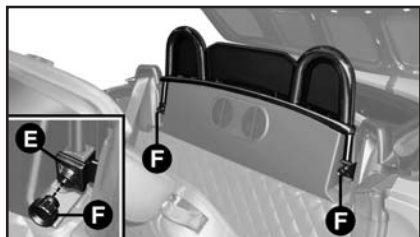

fig. 71
4) Position the cover **E** **fig. 71** on the brackets **A** and **B** as shown in the figure. Then fasten knobs **F** on the supporting bracket screw.
- 1) Hold the bonnet up with one hand and, with the other, remove rod **A**-fig. 71 from recess **B** and replace it in its clip.